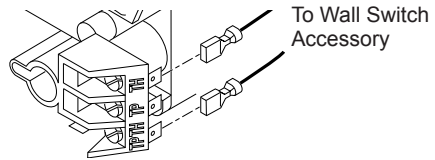

Figure 43 - Connecting Wall Switch to Control Valve
- Connect one terminal of 25 ft. wire for the wall switch to the TPTH terminal on the valve. Connect remaining wire terminal to the TH terminal on the valve. Make sure that the wire terminals are in the positions on the unit as pictured in Figure 43. If wires are not connected as shown the switch will not work.
4. Connect wires from receiver to TH and TPTH to control valve (see Figure 43, page 24).